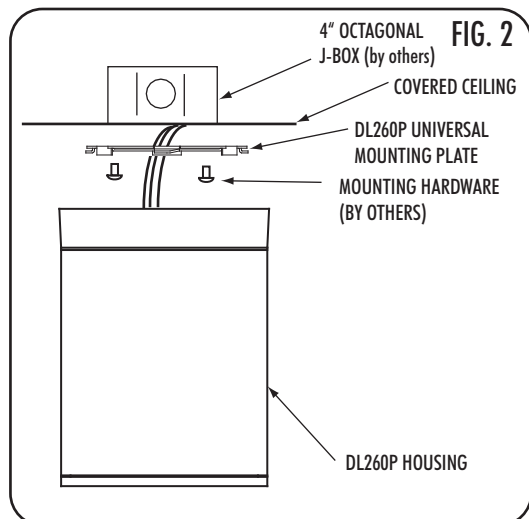

FIG. 2
4. Secure Universal Mounting Plate (UMP) to j-box (by others) with appropriate hardware (by others) (FIG 2).